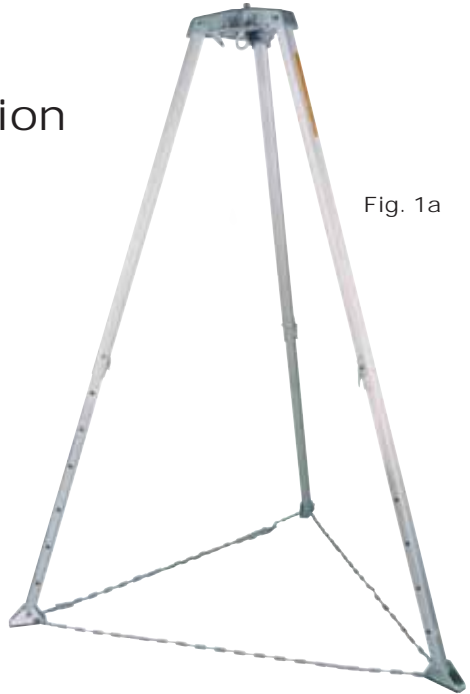

Fig. 1a
3. Reposition legs as far apart as possible and ensure that leg locks are engaged. Adjust the leg safety chain so that it is taut between tripod feet (see Fig. 1a & 1e).